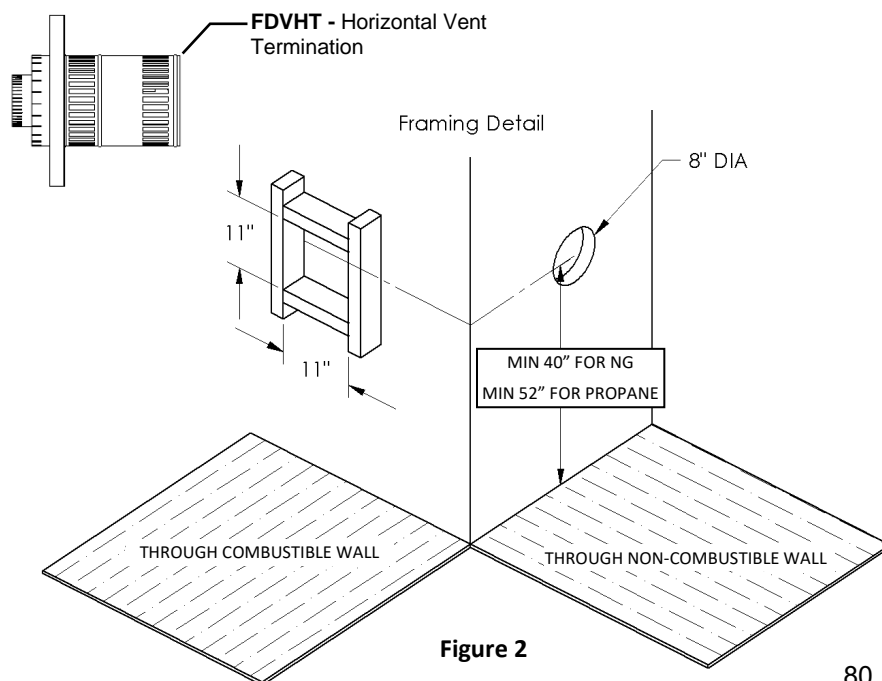

Figure 2
1. To determine the minimum distance from the bottom of fireplace to center of vent see the Framing Your Gas Fireplace section. Cut a hole through the wall allowing for an 11" x 11" (inside diameter) in combustible walls for wall thimble or an 8" diameter hole in a non-combustible wall (See Figure 2).